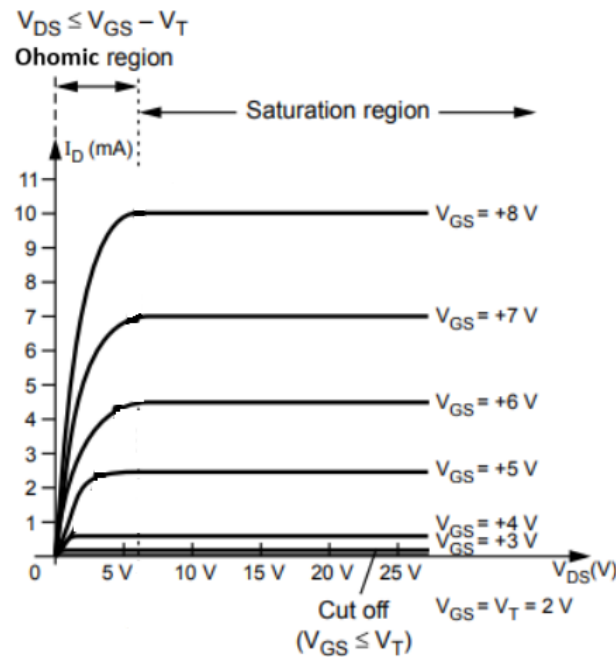

Figure 2.13: Drain Characteristics of the N-EMOSFET
- The Figure 2.13 shows the drain characteristics of an N channel enhancement type MOSFET. Here, as  $V_{GS}$  is increased beyond the threshold level  $V_T$ ,  $V_{GS} > V_T$ , the density of free carriers in the induced channel will increase, resulting in increased drain current  $I_D$ .